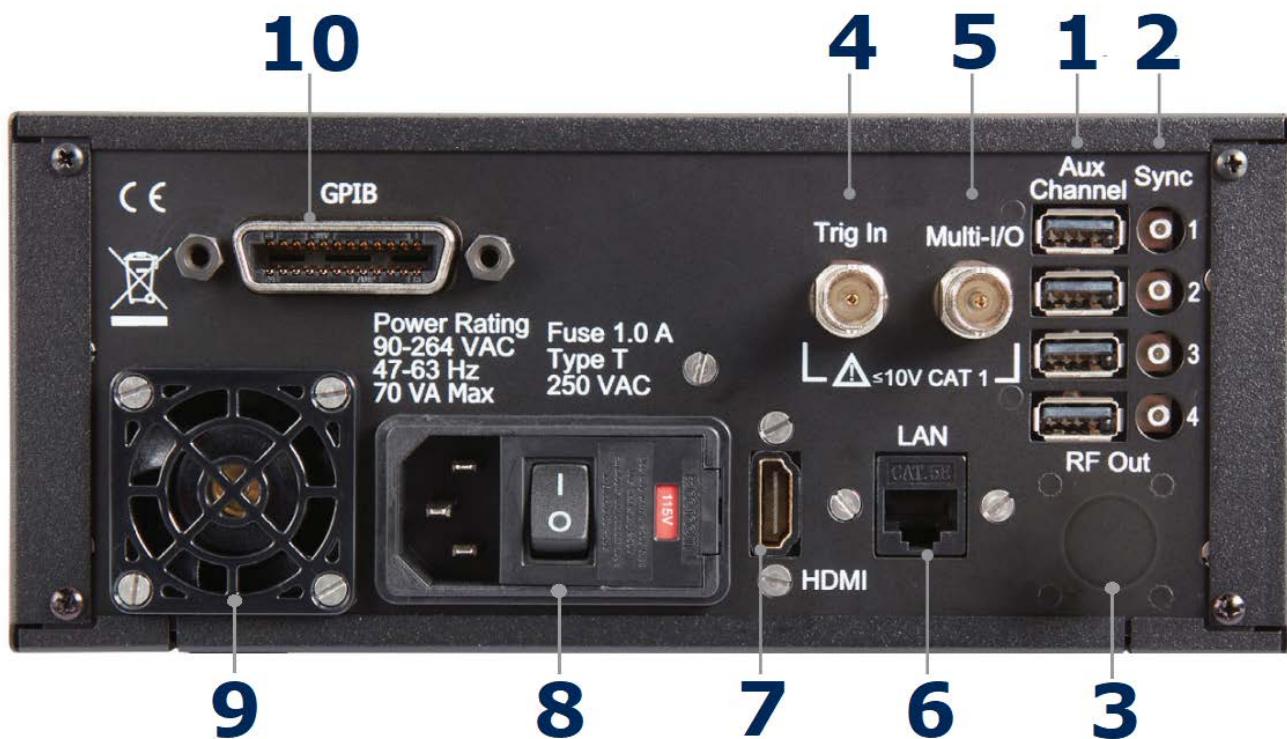

Figure 1.2 Rear Panel
1. If the main power is off, press the power switch located on the rear panel. See figure 1.2.